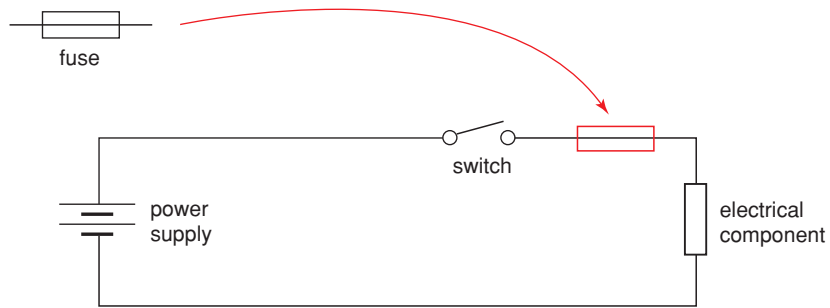

Figure 23
- (59) Show the correct location of the fuse to be fitted into the electrical circuit shown in Figure 23. Also calculate the size of fuse to be fitted into the 13 A 3-pin plug of an electric drill with a power rating of 550 W, designed to run on 230 V. (Page 273.)